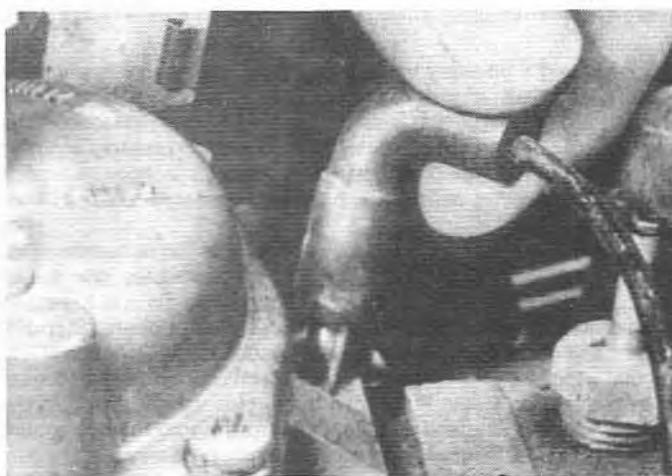
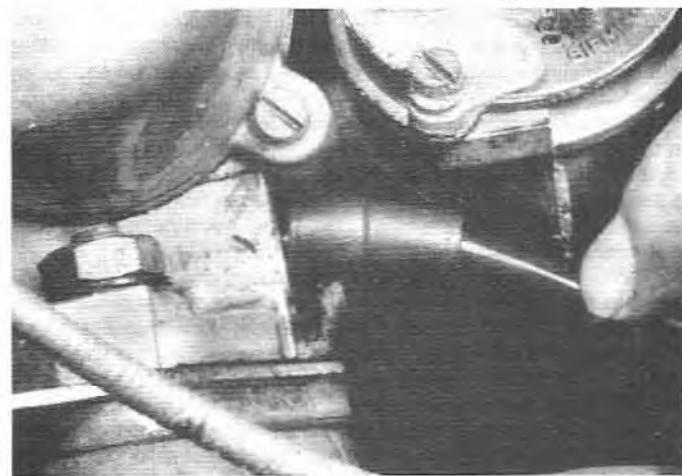

Fig. 3.9 Make sure the vacuum connections on the carburetor are secure and there are no leaks
Fig. 3.10 Checking the ignition advance vacuum line on a SU carburetor
- 4 Check that ignition vacuum connections where fitted, are secure and that the rubber tube is not perished or cracked (refer to Fig. 3.9 and Fig. 3.10).